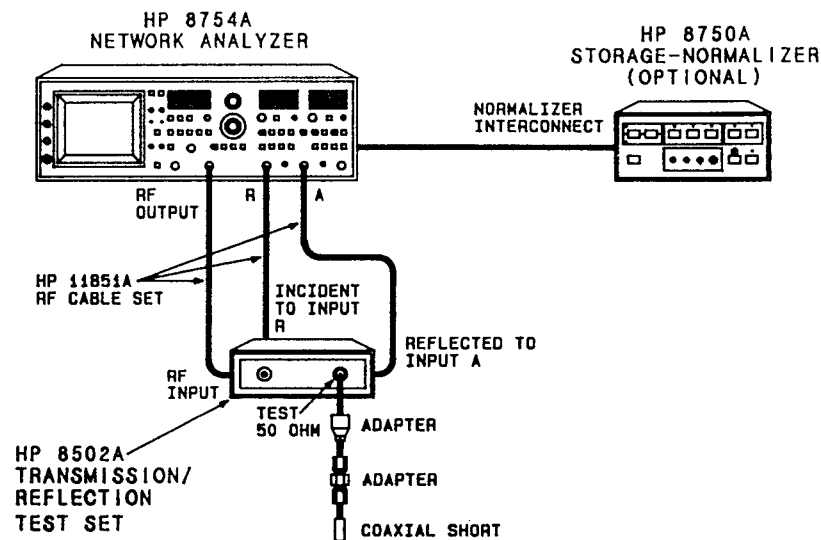

Figure 9. Return Loss Test Setup
1. Connect the equipment as shown in Figure 9. Allow the HP 8754A 30 minutes of warm-up time.